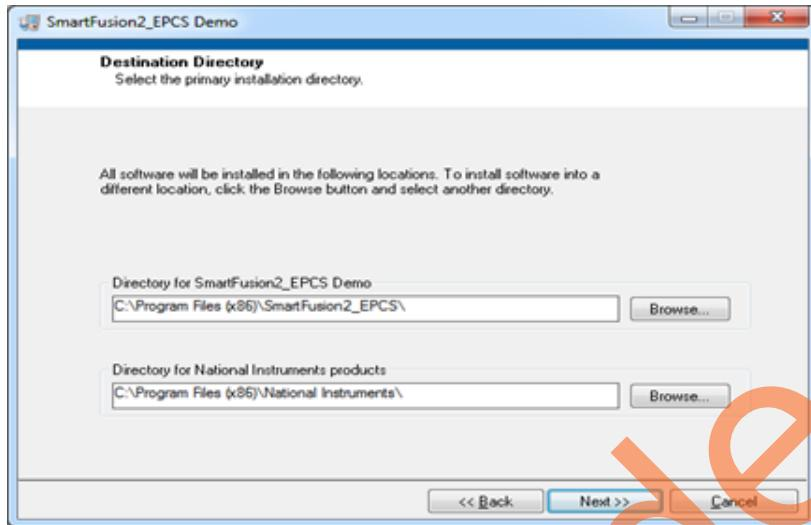

Figure 13 • GUI Setup Window
**Setup** window appears and default locations are displayed, as shown in Figure 13 on page 17.